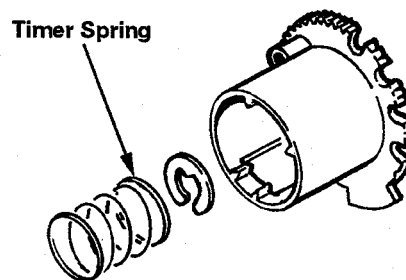

Figure 2-13
14. Remove timer spring, *see Figure 2-13.*